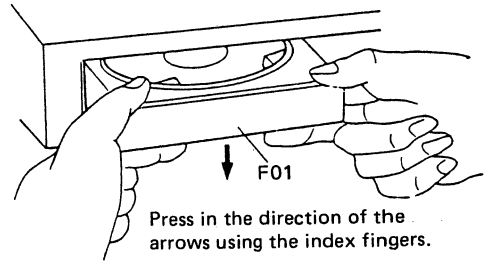
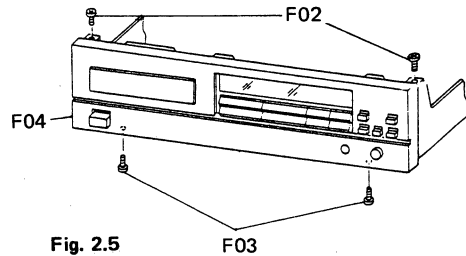

Fig. 2.4
Fig. 2.5
- (1) Refer to Fig. 2.4 and Fig. 2.5.
- (2) Remove the Top Cover Ass'y and the Bottom Cover Ass'y referred to in item 2.1.
- (3) Eject the Disc Tray Ass'y and remove F01 (Disc Drawer Cover) by pressing it down with your fingers.
- (4) Remove F02 and F03, then release the latches located on both sides of the Chassis.
- (5) Remove two connectors (CN-401 and CN-402), then F04 (Front Panel Ass'y).